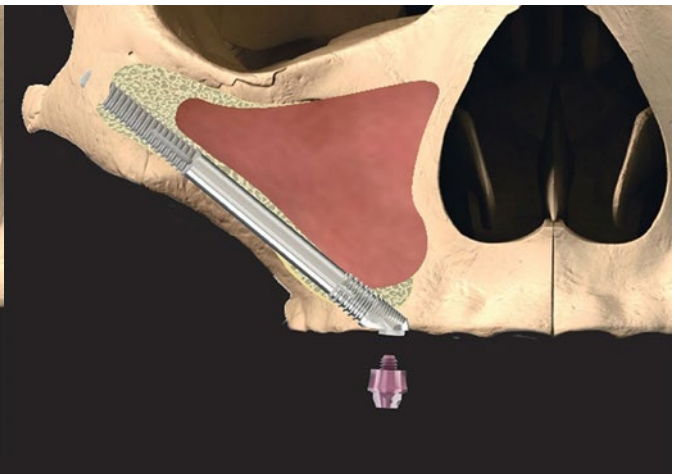

Figure 12
10. Should sufficient primary stability not be achieved for the implant, a cover screw (CH-CS) is placed with the dedicated driver (I-CS-HD) for a two-stage protocol. For immediate loading, a screw-retained abutment (CH-SRA) with an appropriate gingival height is picked up and placed with the dedicated screwdriver (046.401/046.411) (Figure 12). Suturing is then carried out according to the surgeon's preference.